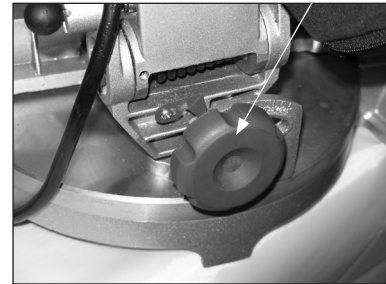

Fig. 4
3. Loosen the Bevel Lock Knob (Fig. 4) at the rear of the saw by turning it counter-clockwise and set the Saw Arm at 0° bevel (blade 90° to the Miter Table).